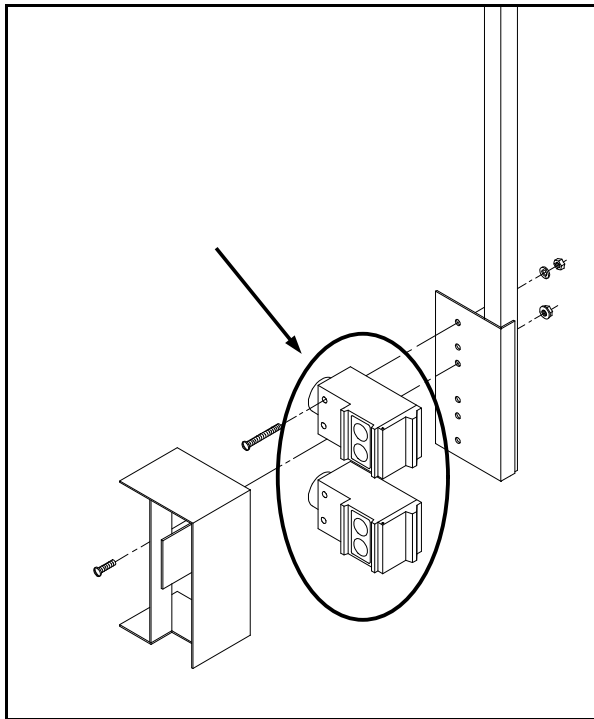
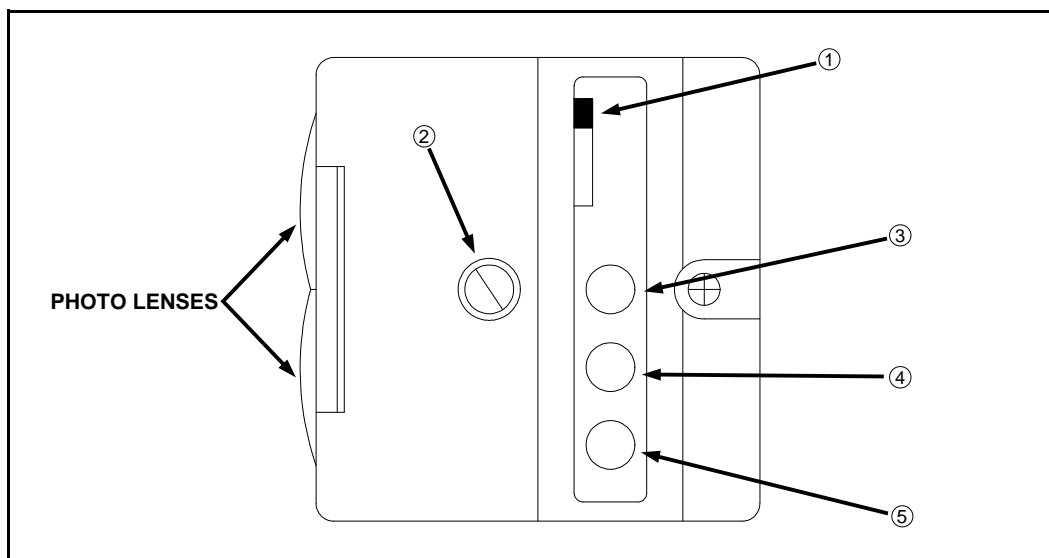

FIG 5.32
FIG 5.33
The upper and lower LS photolights (fig. 5.32) have L.E.D. lights (fig. 5.33) that indicate their operational status.
**LT/DK SWITCH** – Light/Dark switch on photolight (fig. 5.33, item 1) changes the activated condition of green L.E.D. (see below) from *ON* (“LT”) to *OFF* (“DK”). Switch does not affect the functional operation of the light, only how it is displayed. Switch should be set to “LT”.
**SENSITIVITY ADJUSTMENT SCREW** – Sensitivity adjustment screw (fig. 5.33, item 2) should always be set to maximum.
**YELLOW L.E.D.** – Yellow L.E.D. (fig. 5.33, item 3) indicates power on.
**GREEN L.E.D.** – Green L.E.D. (fig. 5.33, item 4) indicates output energized (sending a signal to Tassel-tron® box, opening the raise or lower stack valve).
**RED L.E.D.** – Red L.E.D. (fig. 5.33, item 5) indicates photolight is receiving reflected signal.